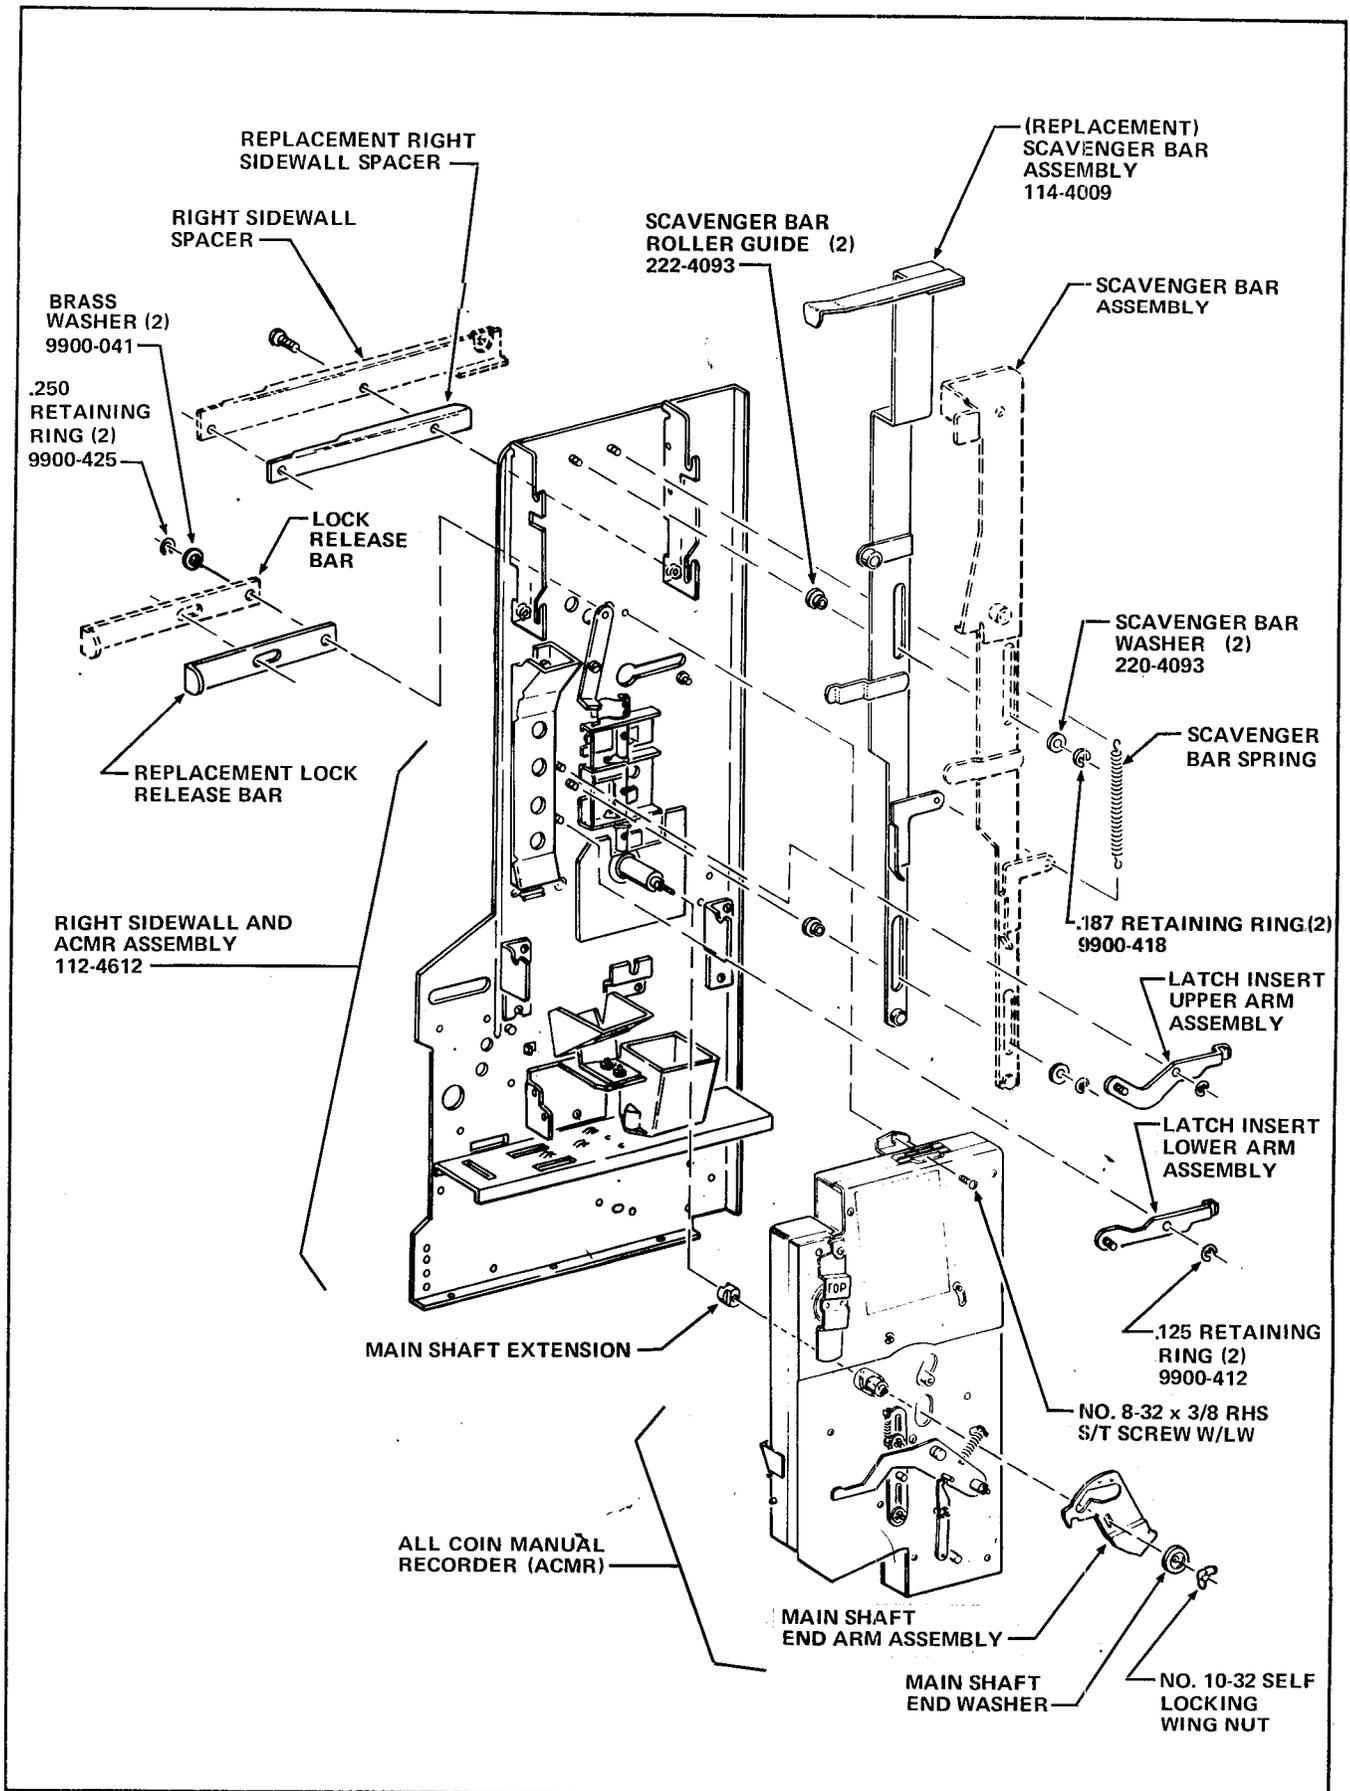

FIGURE 5-3
1. Remove a No.8-32 x 3/8 RHS Self Tapping Screw with Lockwasher attaching the top of the All Coin Manual Recorder (ACMR) to the Right Sidewall of the replacement Right Sidewall and ACMR Assembly, Part Number 1124612, included in the Kit. Retain the Screw for later use. See Figure 5-3.
2. Remove a No.10-32 Self Locking Wing Nut, Main Shaft End Washer, Main Shaft End Arm Assembly and All Coin Manual Recorder from the Right Sidewall. Retain all parts for later use. See Figure 5-3.
3. Remove the Main Shaft Extension from the Right Sidewall. Retain the Main Shaft Extension for later use. See Figure 5-3.
4. Remove two Retaining Rings, two Washers, and the Lock Release Bar from the Right Sidewall. See Figure 5-3.
5. Install the Lock Release Bar, removed in the Parts Removal Procedure, on the Right Sidewall using two 9/16 x .260 x .040 Brass Washers, Part Number 9900-041, and two .250 Retaining Rings, Part Number 9900-425, both included in the Kit. See Figure 5-3.
6. Remove: two No.8-32 Nuts with Lockwashers, two Spacer Rollers, two No.8-32 x 5/8 RHS Screws and the Right Sidewall Spacer from the Right Sidewall. Retain the attaching hardware. See Figure 5-3.
7. Install the Right Sidewall Spacer removed in the Parts Removal Procedure on the Right Sidewall and attach with the flange positioned on top using the hardware removed in the preceding step. See Figure 5-3.
8. Remove a Retaining Ring and the Latch Insert Upper Arm Assembly from the Right Sidewall. Retain the Arm Assembly. See Figure 5-3.
9. Remove a Retaining Ring, and the Latch Insert Lower Arm Assembly from the Right Sidewall. Retain the Arm Assembly. See Figure 5-3.
10. Remove the end of the Scavenger Bar Spring attached to the Scavenger Bar on the Right Sidewall. See Figure 5-3.
11. Remove two Retaining Rings, two Scavenger Bar Washers, Scavenger Bar Assembly and two Scavenger Bar Roller Guides from the Right Sidewall. See Figure 5-3.
12. Install two Scavenger Bar Roller Guides, Part Number 222-4093, included in the Kit, on two studs of the replacement Right Sidewall. Make sure the wide end of the Roller Guides rest against the Sidewall. See Figure 5-3.
13. Install the Scavenger Bar Assembly, Part Number 114-4009, included in the Kit, by fitting the slots of the Scavenger Bar Assembly over the Scavenger Bar Roller Guides. Make sure the arm on top of the Scavenger Bar Assembly points towards the front of the Right Sidewall and the Scavenger Bar Guide fits under the Slug Rejector Bracket. See Figure 5-3.
14. Attach the Scavenger Bar Assembly to the Right Sidewall using two Scavenger Bar Washers, Part Number 2204093, and two .187 Retaining Rings, Part Number 9900-418, both included in the Kit. See Figure 5-3.
15. Attach the Scavenger Bar Spring to the Hole in the Angle Arm of the Scavenger Bar Assembly. See Figure 5-3.
16. Install the Latch Insert Upper Arm Assembly removed in Step B-8 on the Right Sidewall as shown in Figure 5-3 and attach with a .125 Retaining Ring, Part Number 9900-412, included in the Kit.
17. Install the Latch Insert Lower Arm Assembly removed in Step B-9 on the replacement Right Sidewall as shown in Figure 5-3 and attach with a .125 Retaining Ring, Part Number 9900-412, included in the Kit.
46. Install the Main Shaft Extension removed in Step B-3 on the Main Shaft of the Right Sidewall by mating the slotted end of the Main Shaft Extension with the shouldered end of the Main Shaft. See Figure 5-3.
47. Install the All Coin Manual Recorder (ACMR) removed in Step B-2 on the Right Sidewall by fitting the Main Shaft of the Sidewall through the hole in the ACMR. Mount the studs on the sides of the ACMR on top of the Mounting Brackets on the Right Sidewall. See Figure 5-3.
3. Attach the top of the ACMR to the Right Sidewall with a No.8-32 x 3/8 RHS Self Tapping Screw with Lockwasher removed in Step B-1. See Figure 5-3.